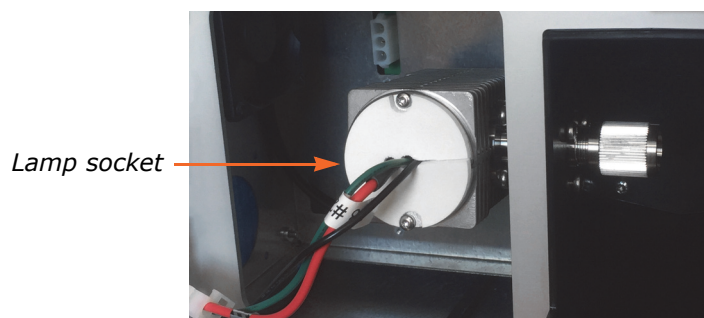

Figure 5-18. Remove the UV Lamp
6. Disconnect the power cable for the UV lamp; see Figure 5-18.
7. Turn the UV lamp into a horizontal position with the lamp socket facing you; see Figure 5-18.
8. Remove the two screws on the lamp socket (see Figure 5-18) using a Torx 10 screwdriver and pull out the UV lamp.